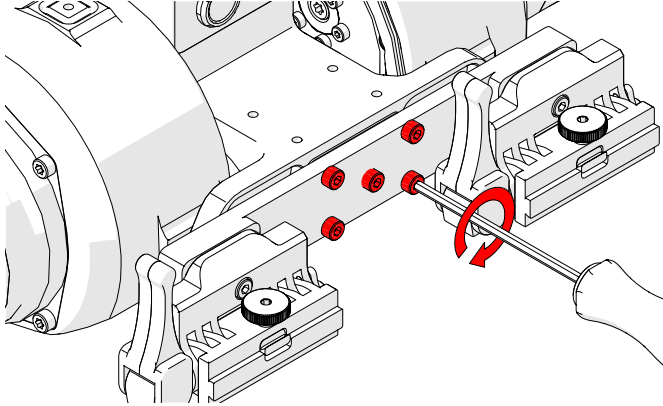

Fig. 51 - Installing double pivot mount
1. Install the double pivot mount to the **TRIPOD** using the provided 3 mm hex driver and fastening each of the five screws (Fig. 51).